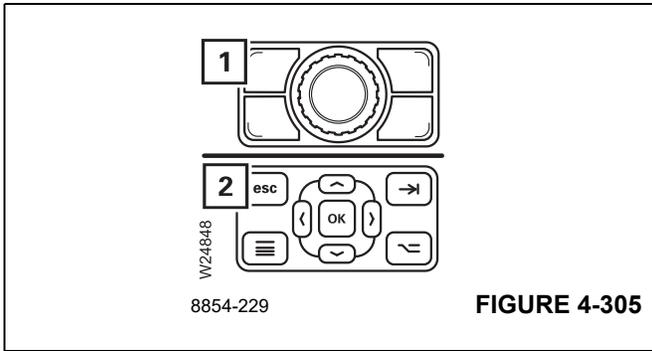

FIGURE 4-305
Press button (1), (Figure 4-305) on the Jog Dial or press the ESC Button (2), (Figure 4-305) on the control panel.